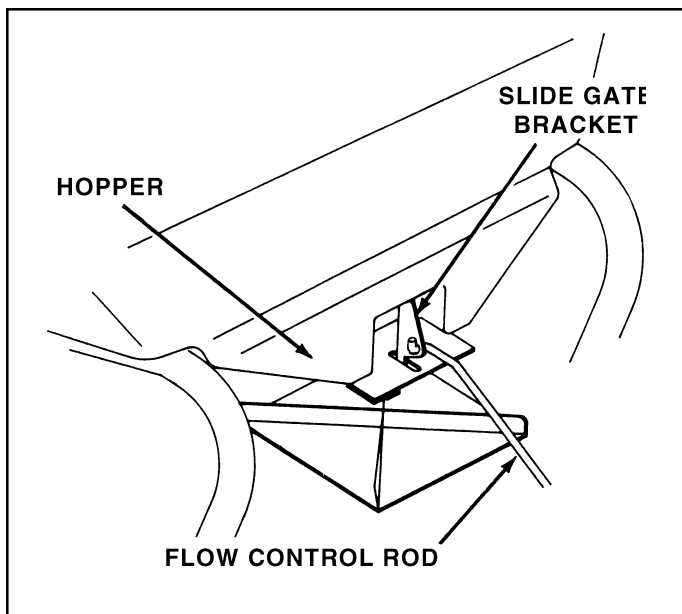

FIGURE 9
18. Hook the free end of the flow control rod through the hole in the slide gate bracket located near the bottom of the hopper. See figure 9.